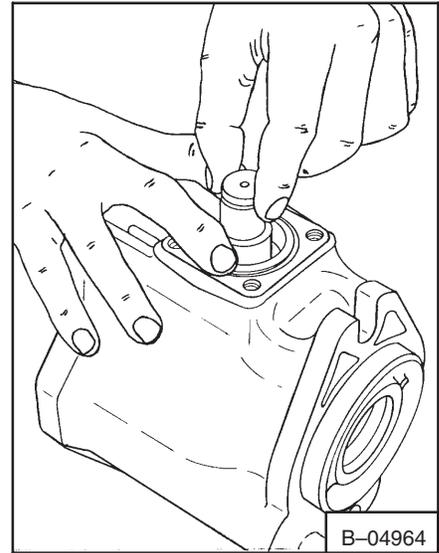

**Fig. 3-137** Tightening The Bolts
11. Install four pintle cover screws. Tighten the screws 170-190 in.-lbs. (19,2-21,5 Nm) torque (Fig. 3-137).